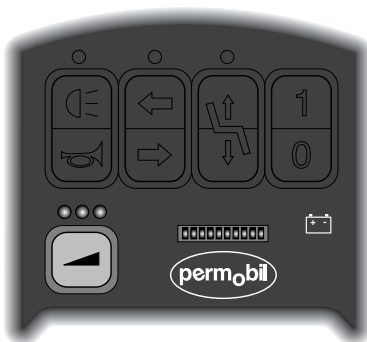

Fig. 32. Speed selector
3. Select a suitable speed by pressing the speed selector until the correct indicator lamp lights up for your type of driving. Preferably start with a low speed, see Fig. 32.